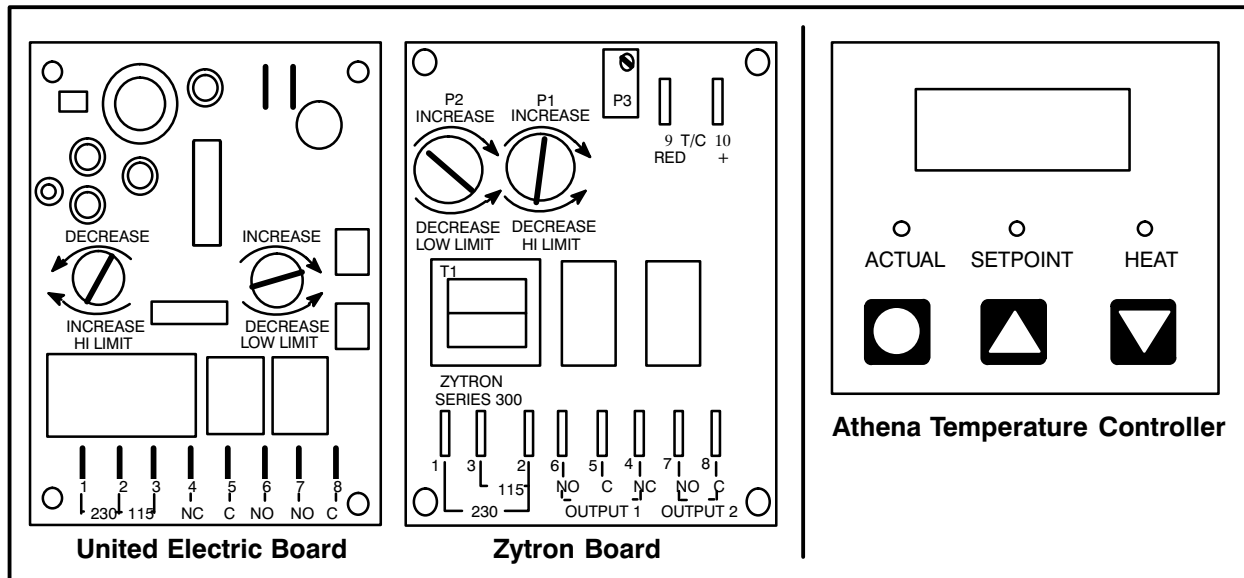

FIGURE 8
the setting, counter-clockwise decreases it. See FIGURE 8.
2. When the display reads 600°F (316°C), the burner blower motor should shut off. If the temperature rises above 600°F (316°C), adjust the hi-limit pot (FIGURE 8) so the burner shuts off at 600°F (316°C). A clockwise rotation of the high-limit pot increases the temperature, counter-clockwise decreases it.